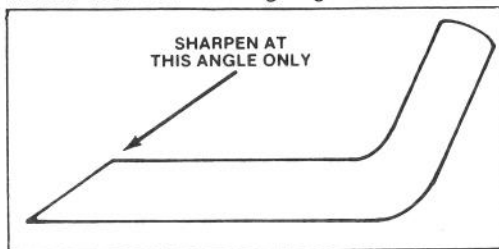

Figure 20
6. **SHARPENING BLADE** — Using a file, sharpen top side of blade and maintain original cutting angle (Fig. 20). The blade will remain balanced if same amount of material is removed from both cutting edges.